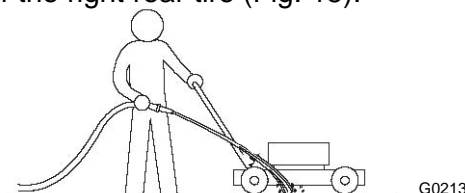

Figure 15
3. Hold the running garden hose at a handle level and direct the water to flow on the ground just in front of the right rear tire (Fig. 15).